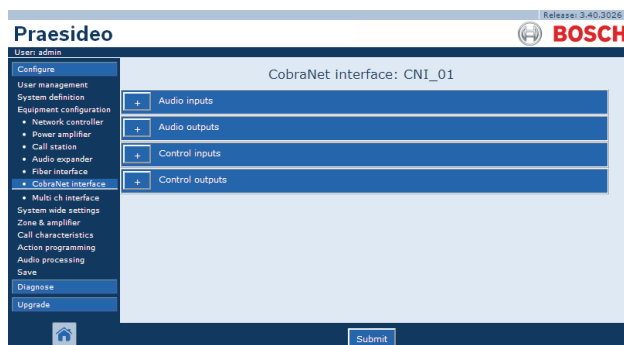

figure 44.39: Configure CobraNet interface step 2
- 2 Click the name of the CobraNet interface that must be configured. A screen similar to the one in figure 44.39 appears in the main frame of the web interface.